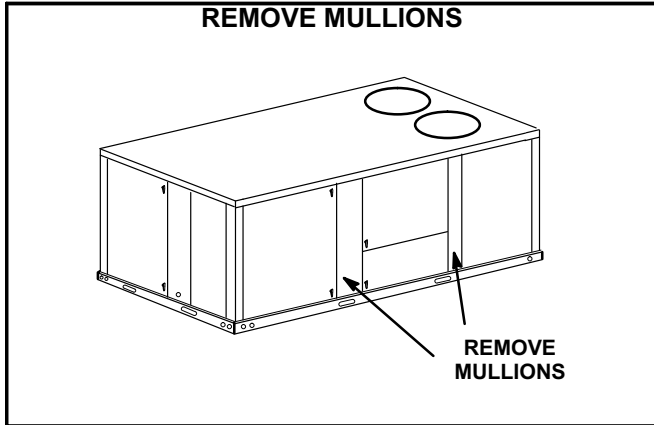

FIGURE 8
- 2- Remove the front middle and right side mullions as shown in figure 8.